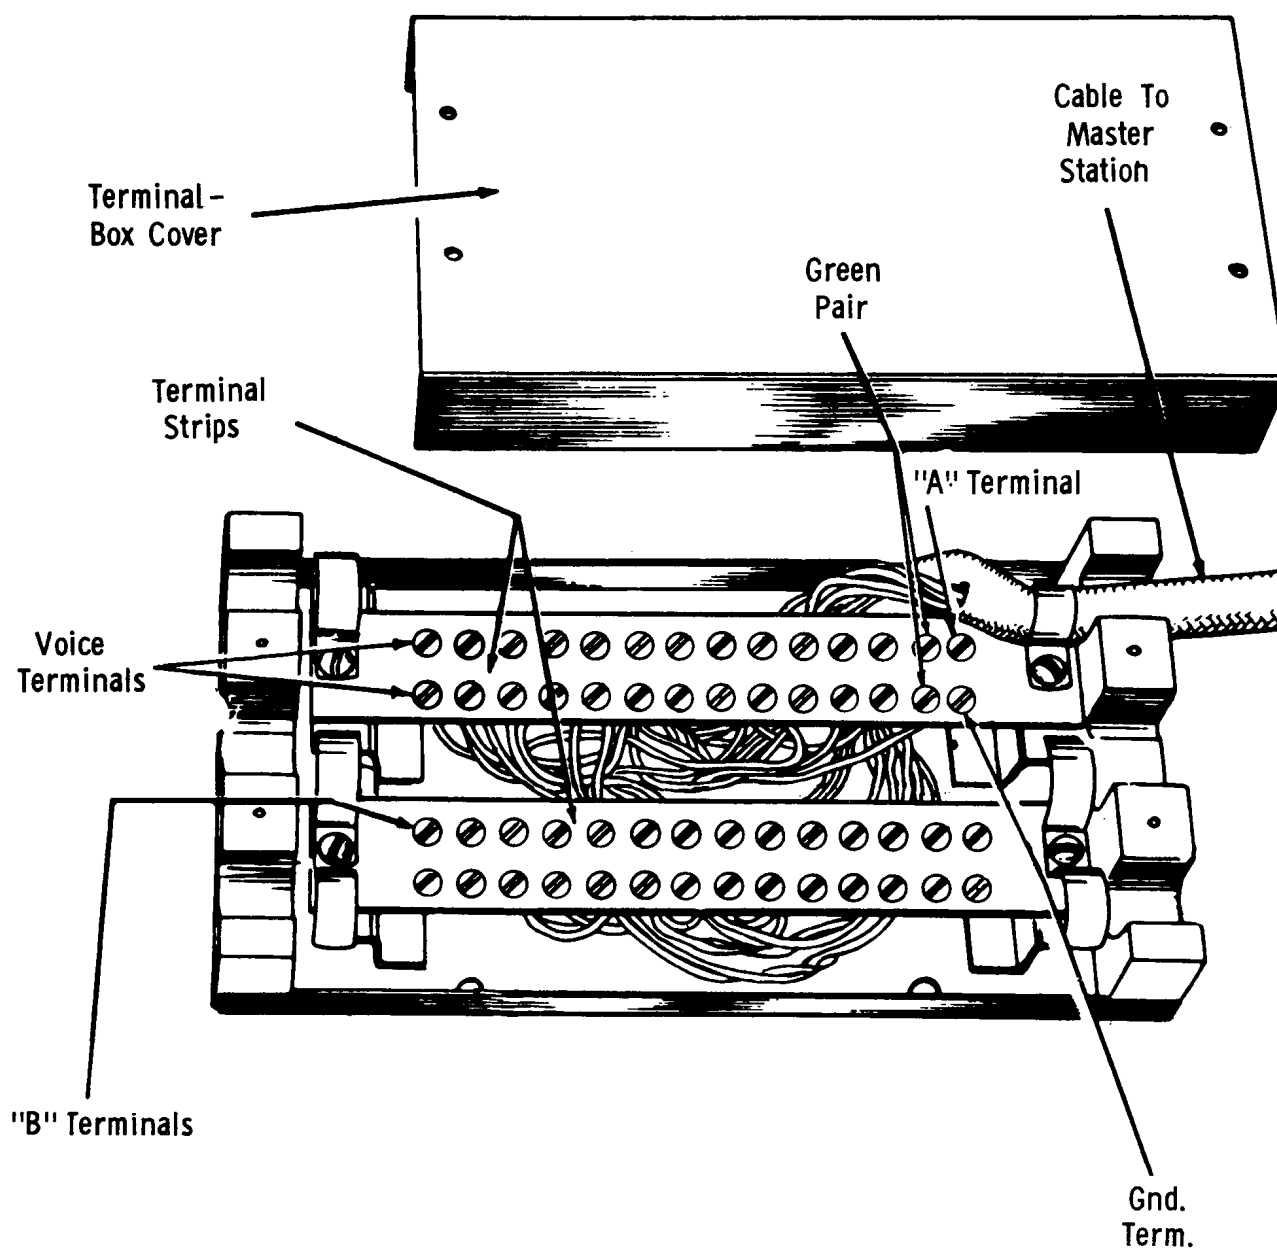

FIG. 2
6.08 Connect voice lines from the "floater" station to other master stations at terminals No. 1 at station No. 1, terminals No. 2 at station No. 2, and in this same manner to the other stations. (See Figure 2 in Section C70.911.03).
6.09 At station No. 1 connect its green home pair terminals to the No. 1 terminals at all the other master stations. Connect the green home pair terminals of station No. 2 to the No. 2 terminals at all other master stations. Connect the remaining master stations in the same manner. (See Figure 2 in Section C70.911.03).
See Figure 2 in Section C70.911.03.
6.11 Connect speaker station voice lines in parallel to consecutive terminals, starting with the last numbered one on the strip, thus assigning speakers to the highest numbered selector keys. Connect the annunciator button (B) to the annunciator terminals of the master station to be annunciated. (See Figure 2 in Section C70.911.03).